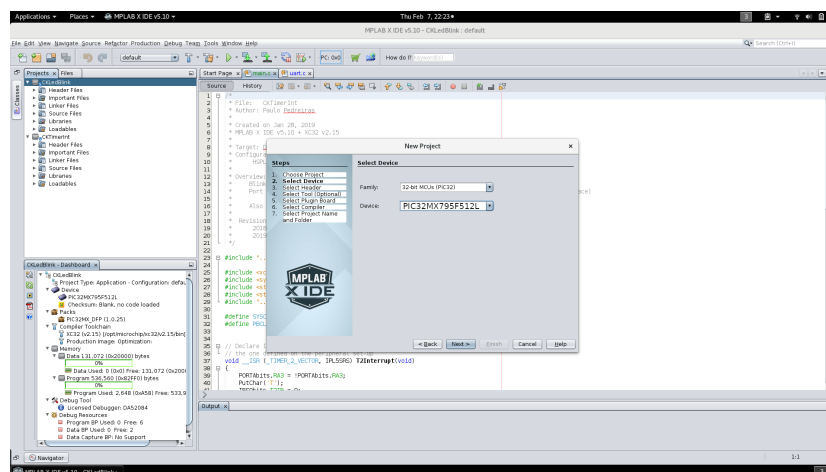

Figure 2: Select the microcontroller model. **Note - Must be an exact match!**
4. Select PIC32MX795F512L microcontroller and “Next” button (Figure 2)